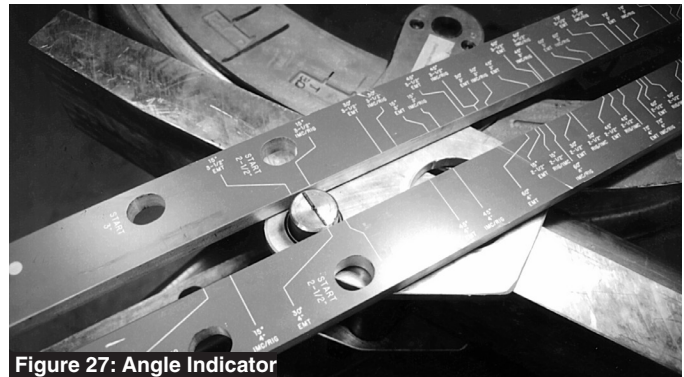

Figure 27: Angle Indicator
- Bend angles are printed on the upper frame decal. Locations exist for Rigid, IMC and EMT conduit. Locate the mark indicating the type of conduit and the angle desired. Figure 27.